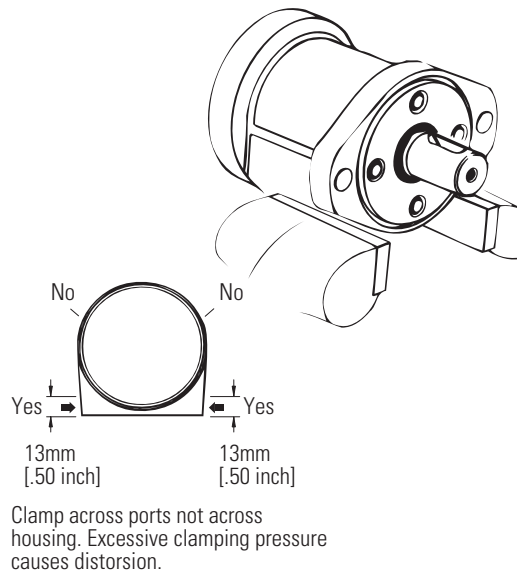

Figure 5
10. Reposition motor in vise. Clamp across ports as shown in Fig. 5, not on side of housing. Do not over tighten jaws. Excessive clamping force may distort housing.
26. Clamp motor in vise as shown in Fig. 5, install dry screws and alternately torque immediately to 28Nm [250 lbin]. If you use primer, allow to cure for 10-15 minutes, without primer, allow 6 hours before subjecting motor to high torque reversals. On all other applications you can run the motor immediately. If you use new bolts, make sure they are the correct length, 22mm [.875 inch] under head length, see parts list for correct part number. Longer screws will not permit proper seal between the flange and housing. Install key in key slot of shaft.